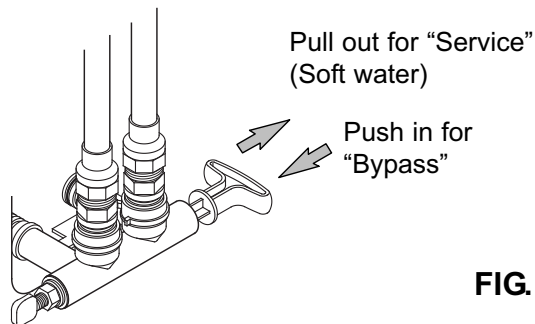

FIG. 6
Always install either a single bypass valve (provided), as shown in Figure 6, or, if desired, parts for a 3 valve bypass system (not included) can be purchased and assembled, as shown in Figure 7. Bypass valves allow you to turn off water to the softener for maintenance if needed, but still have water in house pipes. Pipe fittings must be 3/4" minimum.
2. Place the bypass valve (single or 3 valve) into the "bypass" position. See Figures 6 & 7 on Page 5.